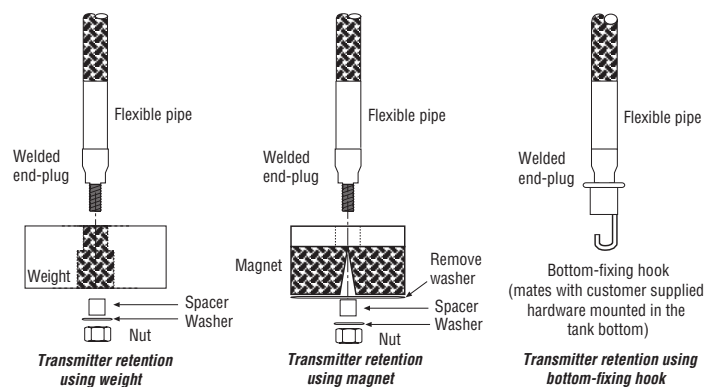

Fig. 6: Bottom fixing hardware
5. Mount the hook, weight, or the magnet to the welded end-plug section of the pipe (this is the bottom rigid section of the pipe) using the supplied nut, spacer and washer, tighten securely as shown in Figure 6. For the magnet, remove washer before installing in tank.